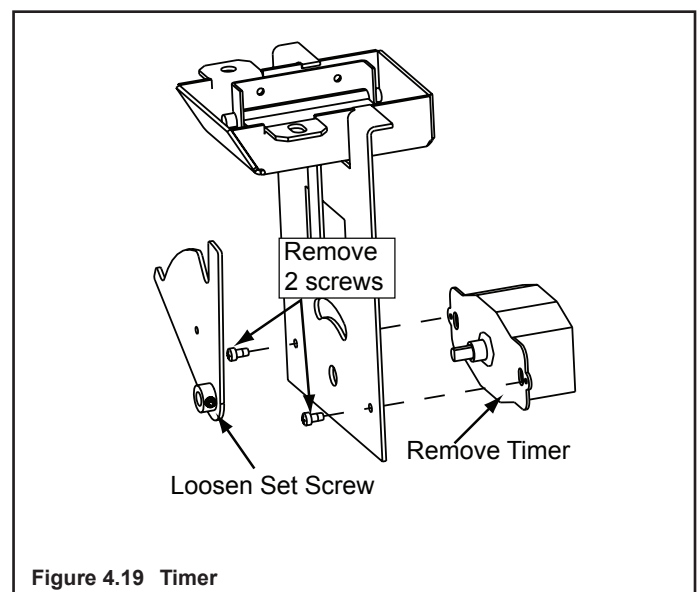

Figure 4.19 Timer
- Loosen set screw on timer, remove two screws and remove timer. See Figure 4.19.